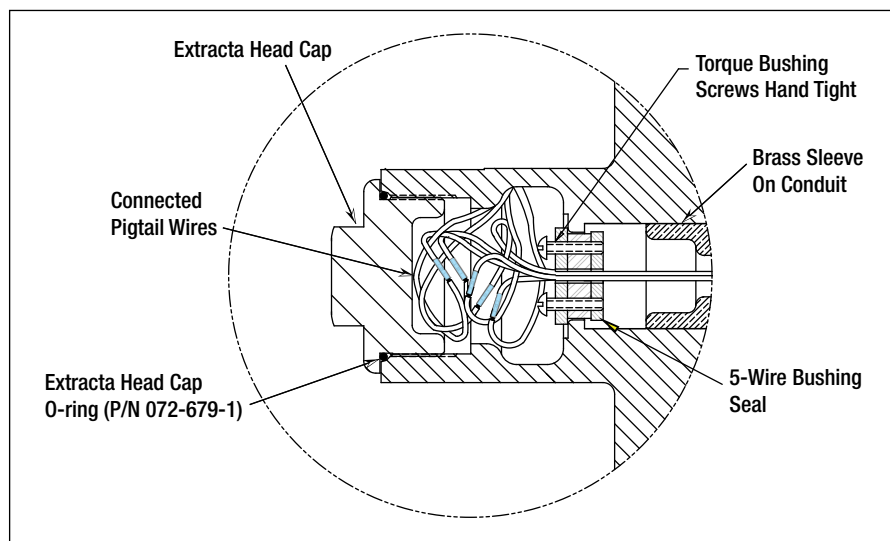

Figure 19. Extracta Head Components
28. Replace the o-ring in the Extracta Head cap you set aside earlier with a new o-ring (P/N 072-679) and lubricate it with petroleum jelly. Install the Extracta Head cap in the Extracta wiring compartment (see Figure 19) and torque to 25-50 ft-lbs (34-68 N•m).
44. Replace the o-ring in the Extracta Head cap you set aside earlier with a new o-ring (P/N 072-679) and lubricate it with petroleum jelly. Install the Extracta Head cap in the Extracta wiring compartment (see Figure 19) and torque to 25-50 ft-lbs (34-68 N•m).